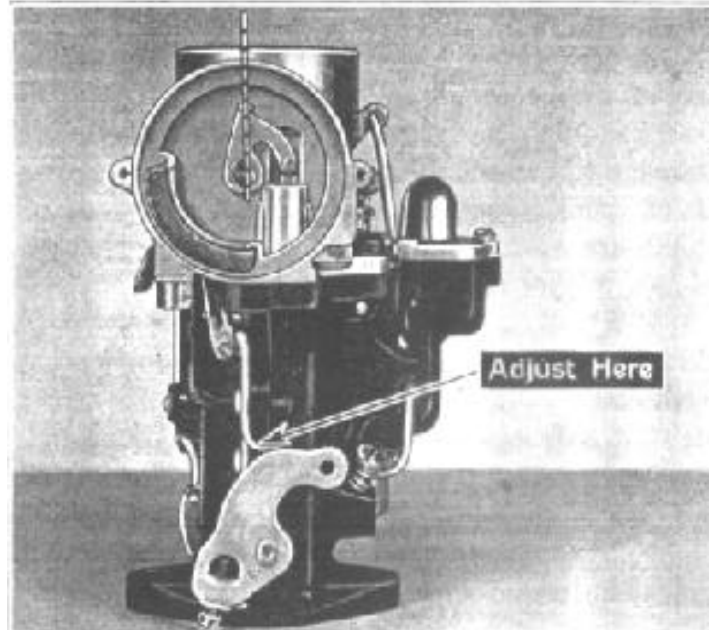

Figure 419
(83) Adjust curved lip on fast idle block to open choker valve to position described in operation No. 82 at wide open throttle. (Figure 419) on 1936.